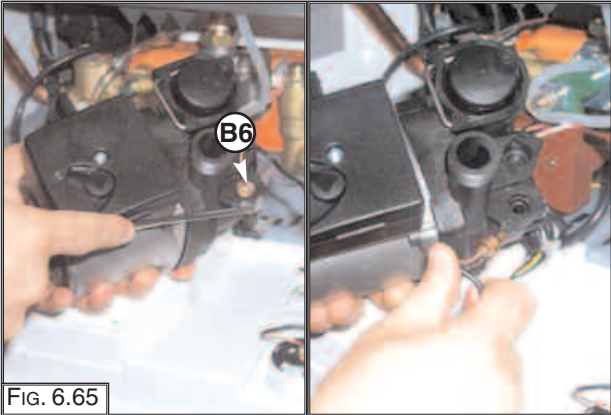

FIG. 6.65
5. Remove the U-clip "B6" and remove the pressure gauge connection (FIG. 6.65);